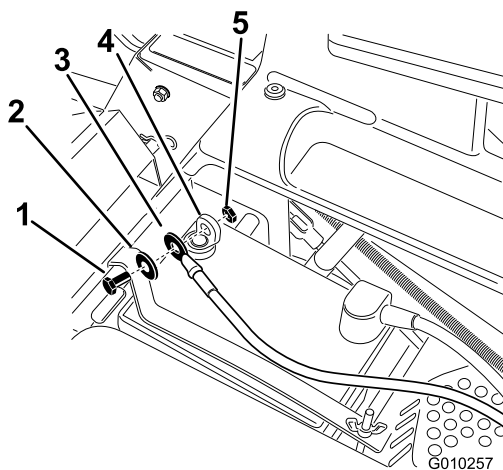

Figure 4
2. Remove the black plastic cap from the negative battery post. Remove the fasteners from the negative battery cable and use them to secure the negative battery cable to the negative battery post (Figure 4).